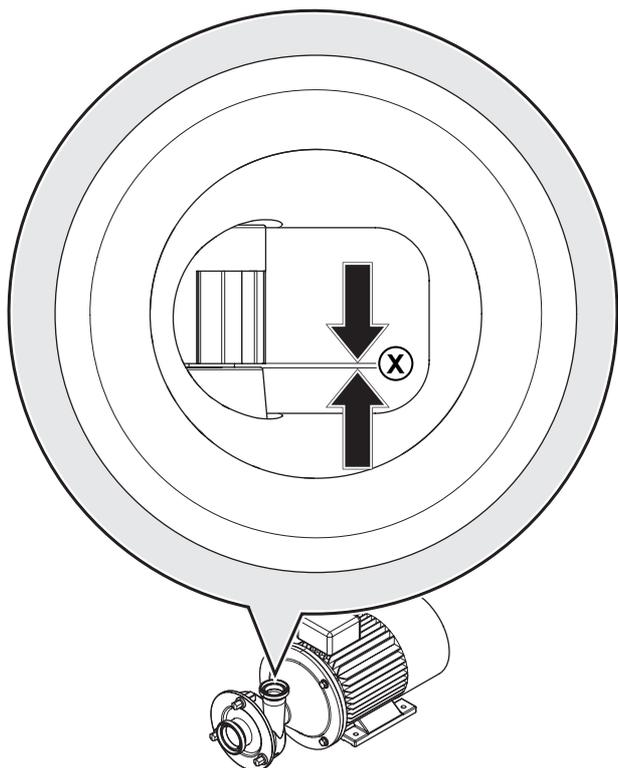

Fig. 23 Measurement of impeller-pump cover clearance
2. Measure the clearance inside the pipe connection (discharge line). See *Fig. 23 "Measurement of impeller–pump cover clearance"*.